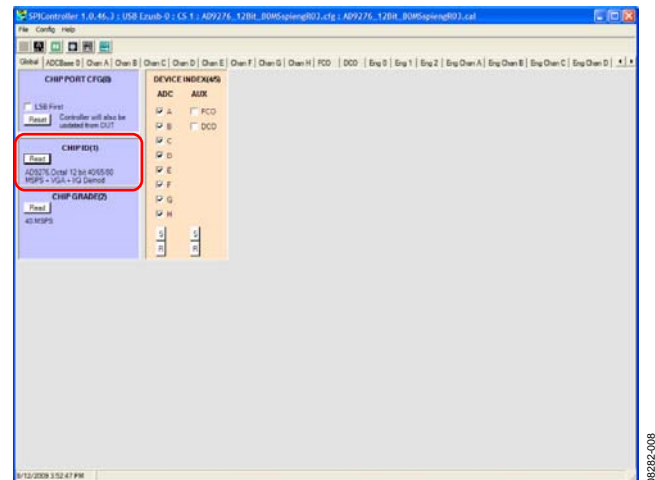

Figure 8. SPI Controller, CHIP ID(1) Box
- Open the SPI Controller software by going to the **Start** menu or double-clicking the SPI Controller software desktop icon. If prompted for a configuration file, select the appropriate one. If not, check the title bar at the top of the SPI Controller window to determine which configuration is loaded. If necessary, choose **Cfg Open** from the **File** menu and select the appropriate configuration Note that the **CHIP ID(1)** field should be filled to indicate whether the correct SPI Controller configuration file is loaded (see Figure 8).